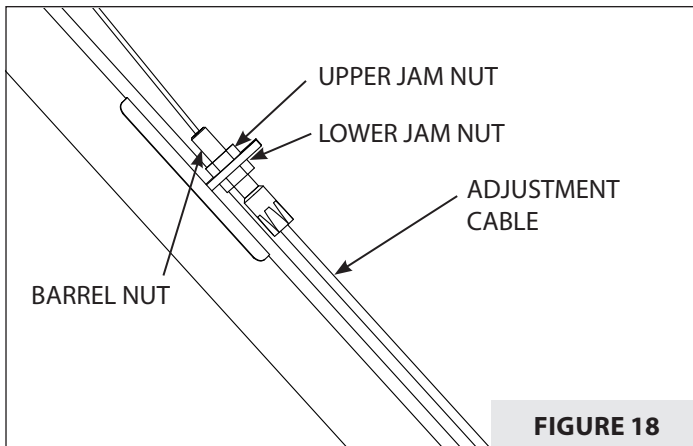

FIGURE 18
1. Loosen upper jam nut on adjustment cable. **SEE FIGURE 18.**